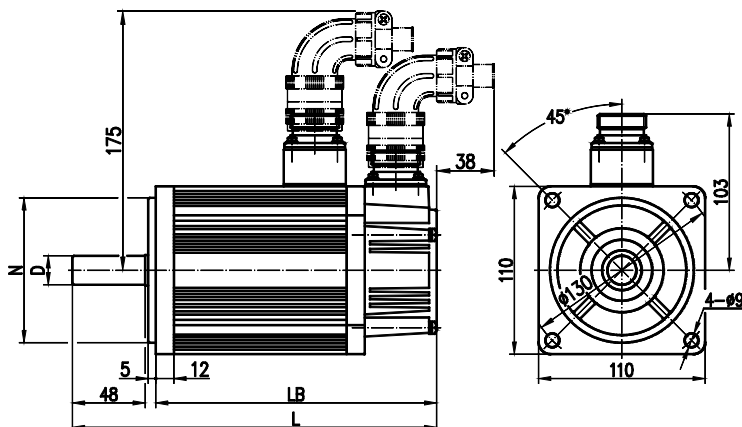

Fig. 2
5.2 Refer to figure 2 and list 7 about **110SJT** series motor overall installation dimension.